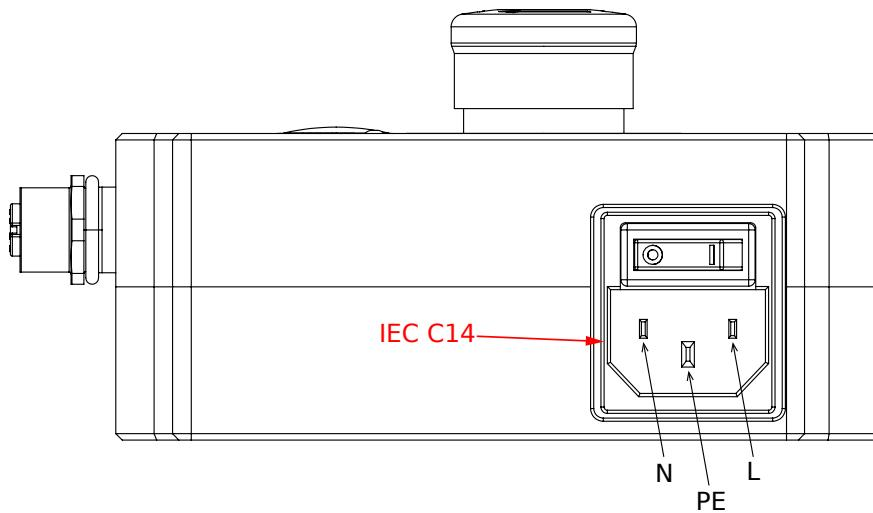

Figure 3: IEC C14 power entry receptacle and main switch
Figure 3 shows the AC power connector, of type IEC C14, and indicates the Neutral (N), Protective Earth (PE) and Live (L) pins. It also illustrates the main switch ("I" stands for ON, "O" stands for OFF).